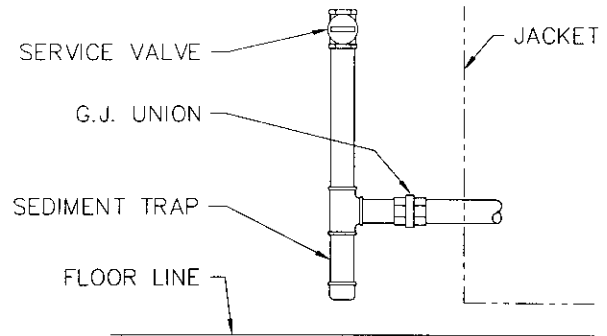

Figure 6: Gas Connection to Boiler
5. Install a sediment trap. See Figure 6. Locate a tee in the drop pipe at same elevation as the gas inlet connection to the boiler. Extend the drop pipe to a pipe cap.
6. Install a ground joint union ahead of the gas control assembly to permit servicing of the control. Install a service valve as shown in Figure 6.